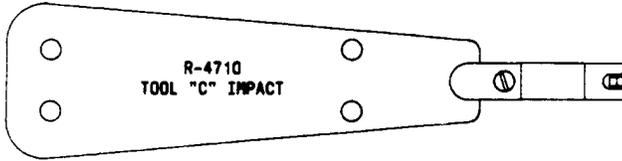

Fig. 22—R-4710 C Impact Tool
**2.24 R-4710:** The R-4710 C impact tool (Fig. 22) has an impact force in the range of 18 to 21 pounds. The available blades are 4710 and 4710A. The 4710 blade is used to seat wire ends. The 4710A blade is used to seat and cut off wire ends. This tool is used for terminating wires in the 94-type connecting block.